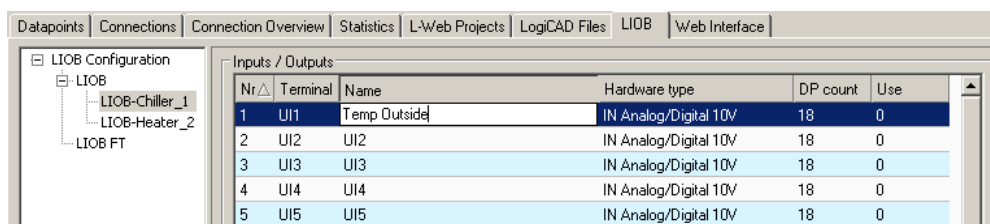

Figure 30: Change L-IOB terminal names for your installation.
- Select a L-IOB device in the tree on the left-hand side and enter names for the terminals by double-clicking into the **Name** column as shown in Figure 30.